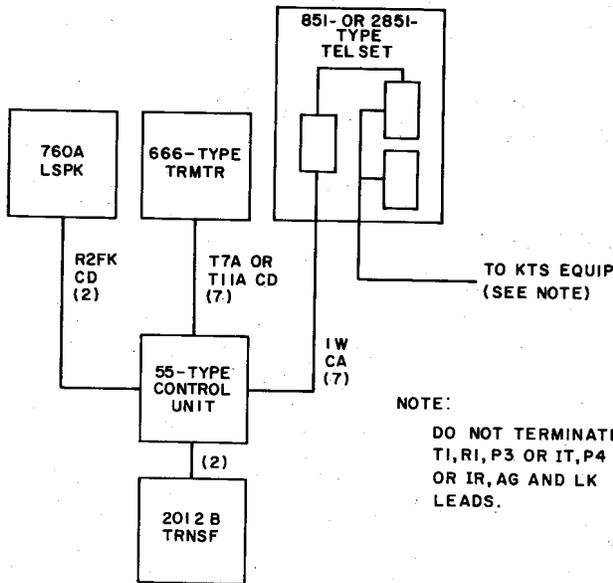

Fig. 26—Block Diagram of 3-Type (MD) Speakerphone Control Unit Located Near Station
external to the set and wired to the 55-type (MD) control unit. The control unit can be located near the telephone set (Fig. 26) or at the KTS equipment.